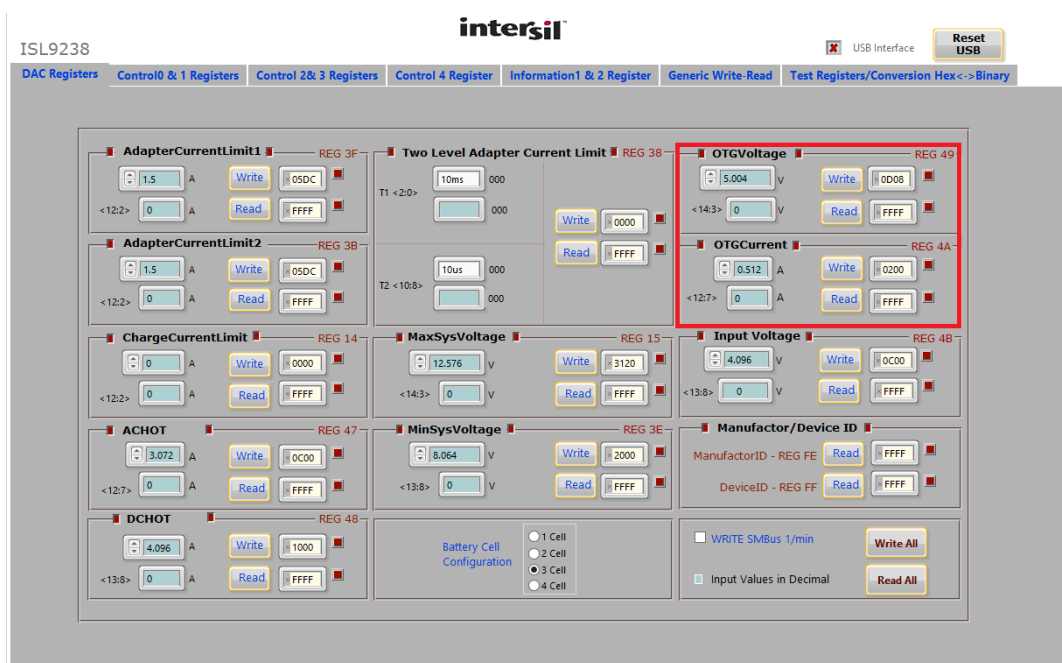

FIGURE 4. OTG VOLTAGE AND CURRENT SETTING IN GUI
4. Open the Intersil ISL9238 GUI. The OTGVoltage is the voltage value for load side, as shown in Figure 4 on page 5, and the OTGCurrent is the OTG output current limit at load side. These values can be set as needed by the customer, within the output limit range. For their value range, please refer to the ISL9238 datasheet.